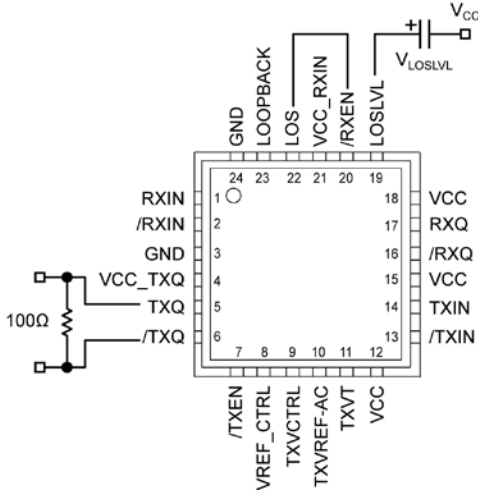

Figure 2a. Voltage Source Implementation
The SY58620L features a chatter-free Loss-of-Signal (LOS) TTL compatible output with an internal 4.75kΩ pull-up resistor. LOS circuitry monitors the input receiver signal and asserts a signal when the input signal falls below the threshold set by the programmable LOS level set pin (LOSLVL). When the amplitude of the receiver input signal falls below the threshold, LOS is asserted HIGH with a response time of ~0.2μs. LOS can be fed into /RXEN to maintain output stability by disabling the output during a Loss-of-Signal condition. Figure 2a and 2b shows the LOS connection to /RXEN. When /RXEN is HIGH, the output signal RXQ is held LOW and /RXQ is held HIGH. Typically, 2dB of LOS hysteresis is adequate to prevent the receiver output from chattering. LOS operation is optimized for data rates ≥622Mbps with an input receiver amplitude of at least 10mV (20mVPP). Due to the long time constant in slower data rates below 622Mbps, the SY58620L LOS function does not guarantee chatter-free operation for low amplitude signals.
LOS detection trip-point by setting up a voltage divider between VCC and VREF (an internal voltage source set at VCC-1.3V), since there is a 2.8kΩ internal resistor connected between LOSLVL and VREF. The input voltage range of LOSLVL ranges from VCC to VREF. See the “Functional Block Diagram” section and Figures 2a and 2b, to see how RLOSLVL sets up a voltage divider between VCC and VREF. Refer to the “LOS Output DC Electrical Characteristics” table and “Typical Operating Characteristics” section to see how different RLOSLVL values affect LOS sensitivity.
- Connecting the input /RXEN to the LOS output as shown in Figures 2a and 2b, maintains receiver output stability under a Loss-of-Signal condition